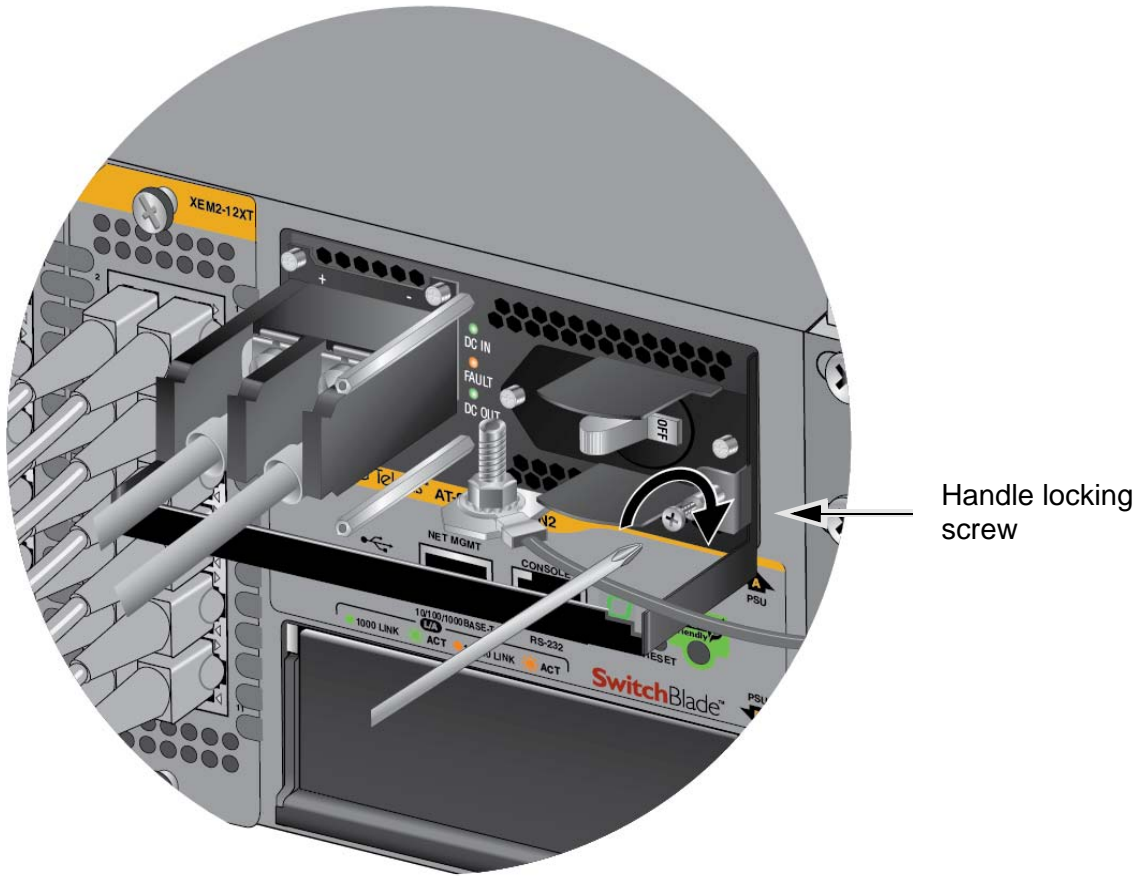

Figure 76. Tightening the Handle Locking Screw
8. With a #2 Phillips-head screwdriver, tighten the handle locking screw to secure the power supply to the chassis. See Figure 76 on page 106.
7. With a #2 Phillips-head screwdriver, tighten the handle locking screw to secure the power supply to the chassis. See Figure 76 on page 106.